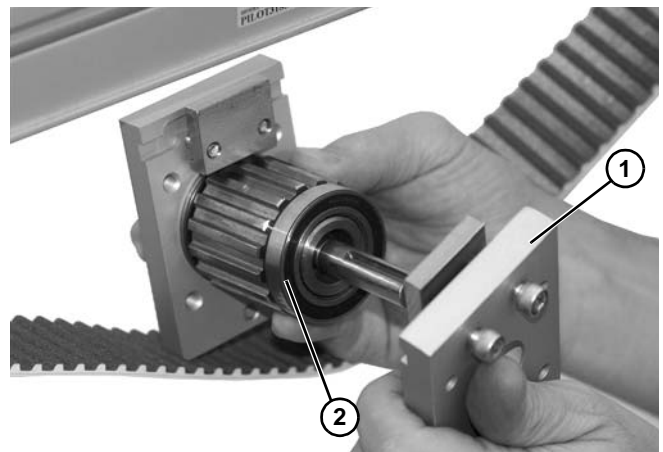

Figure 87
6. Install mounting block (Figure 87, item 1) onto spindle (Figure 87, item 2).